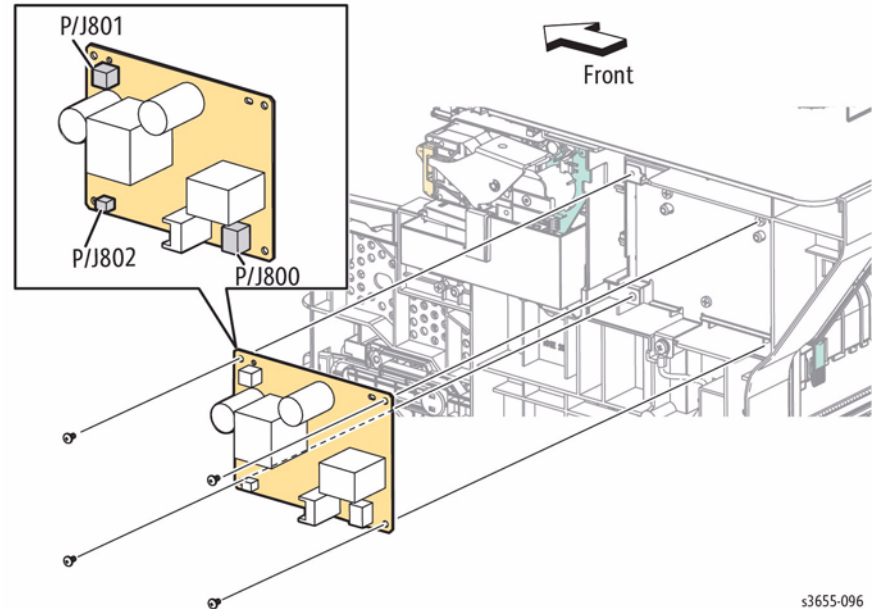

Figure 1 Remove the Stapler LVPS
6. Refer to Figure 1 to locate and remove 4 screws (silver, M3, 6mm) to remove the board.